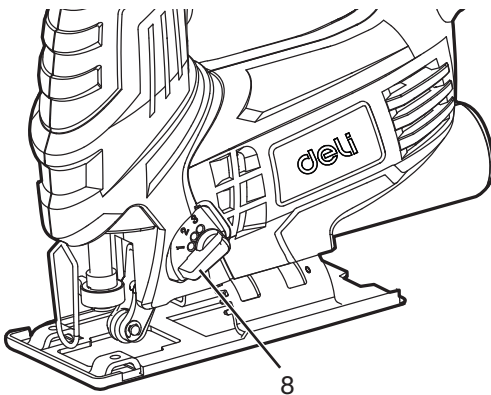

FIG.6
**Note:** Metal or hardwoods should never be cut in orbital action. To adjust the cutting action, moves the orbital switch knob (8) between the four cutting positions: 0, 1, 2, and 3. Position 0 is the straight cutting. Positions 1, 2 and 3 are orbital cutting. The aggressiveness of the cut increase as the knob is moved from one to three, with three being the most aggressive cut. (See Fig. 6)